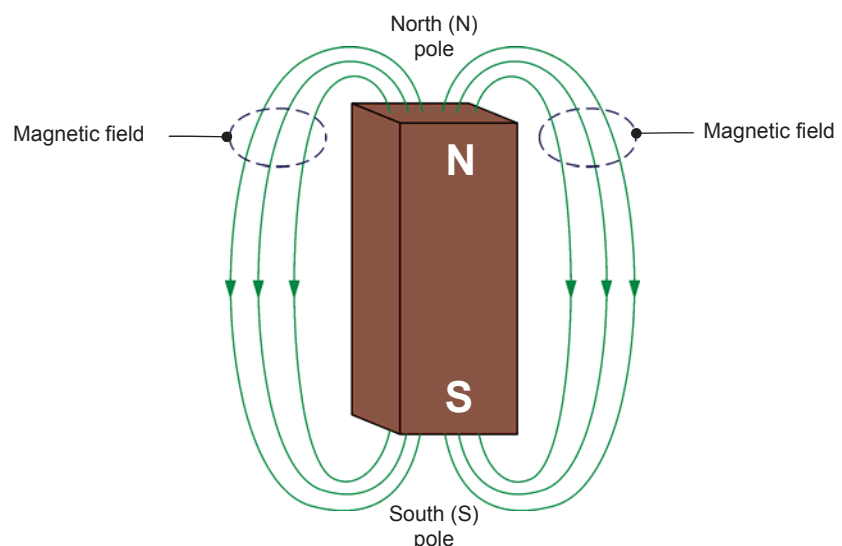

Figure 13. A permanent magnet has two poles called north (N) and south (S).
A permanent magnet is a piece of iron or metal surrounded by a magnetic field, as Figure 13 shows. This magnetic field is constant, i.e., it persists naturally without the need of an electrical current. The magnet has a north (N) pole and a south (S) pole. These poles are situated near the ends of the magnet where the magnetic field strength is the greatest.